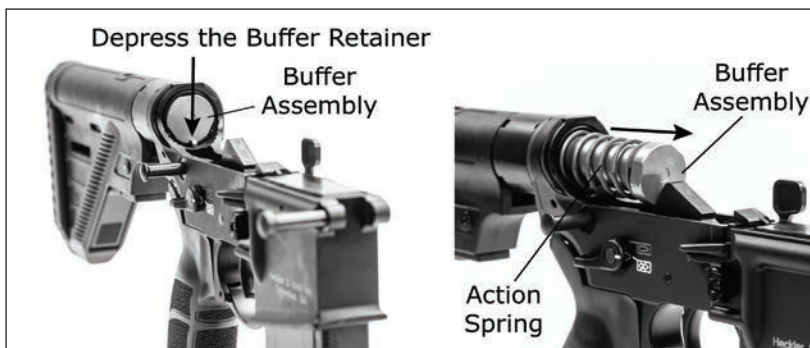

Fig. 27 – Removing Buffer Assembly
a. Depress the buffer retainer and remove the buffer spring from the receiver extension (buffer tube) (Fig. 27).